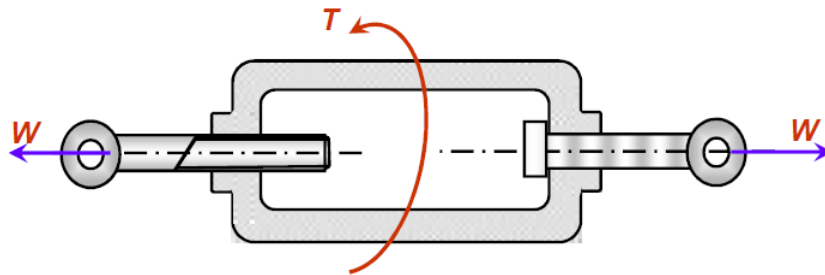

Figure 3: Turnbuckle Type 2
Deduce an expression to calculate the Torque(T) requirement to tension and loosen the turnbuckle shown in Figure 3.